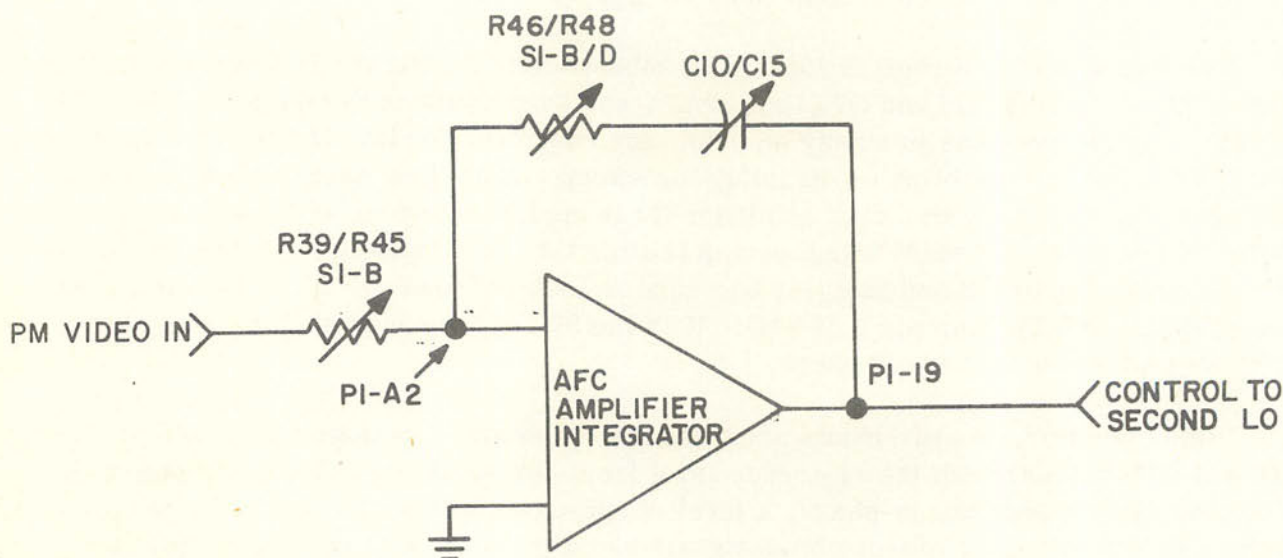

Figure 4-4. Integrator (AFC Amplifier)
4-18. In the detector, the two inputs are compared to derive a voltage output and applied to Q10 and Q11 to transform the reference level from -6V to 0V DC. When the inputs to the detector are present and in-phase, a level of approximately +2.5V DC is taken from the collectors of Q10 and Q11; out-of-phase signals cause a decreasing voltage level at the output. The level at Q11 is applied to inverting input of voltage comparator U4 in subassembly A2 (see figure 7-3) as long as the output of the detector circuit applied to U4-4 remains above the 100 mV reference level at U4-3; the comparator output at U4-9 is at zero volts DC or a slight negative voltage. In this state, the sweep control circuit composed of U2-U3-Q2-Q3-Q4 is off. Additionally, U2A and U2B are on which energizes K1 (if S2 is set to SYNC) and illuminates the front panel lock indicator connected between +6V DC and terminal 8. Transistor Q1 is off and the resultant +15V collector level at terminal 9 is applied to rear panel connector P1 at pin 12 as an indication that a phase locked condition exists. During phase lock, the output from the phase detector U4A-Q8-Q9 at the collector of Q9 (see figure 7-2) is applied to timing resistors R39 through R45 (see figure 7-3). These resistors are tied to the input of the integrator on the receiver AFC amplifier via P1-A2 and are progressively shorted out depending on the position of the demodulator LOOP BANDWIDTH Hz switch S1 section B. The output of the integrator, which also drives the receiver second local oscillator, is tied to P1-19 as is the integrator timing capacitor. Thus, the loop is formed as shown in figure 4-4. During this mode, the loop maintains phase lock by continuously adjusting the frequency of the second local oscillator (LO) over a range of  $\pm 250$  kHz around the second LO center frequency. [The center frequency of the second LO is controlled over a  $\pm 250$  kHz range by the positioning of the demodulator FINE TUNE control] (R1 figure 7-1). This control is electrically connected between terminals 51 and 52 (see figure 7-3) which are the outputs of active filter Q5-Q6-CR7-CR8 which functions as a precision +12.7 and -12.7V power supply.